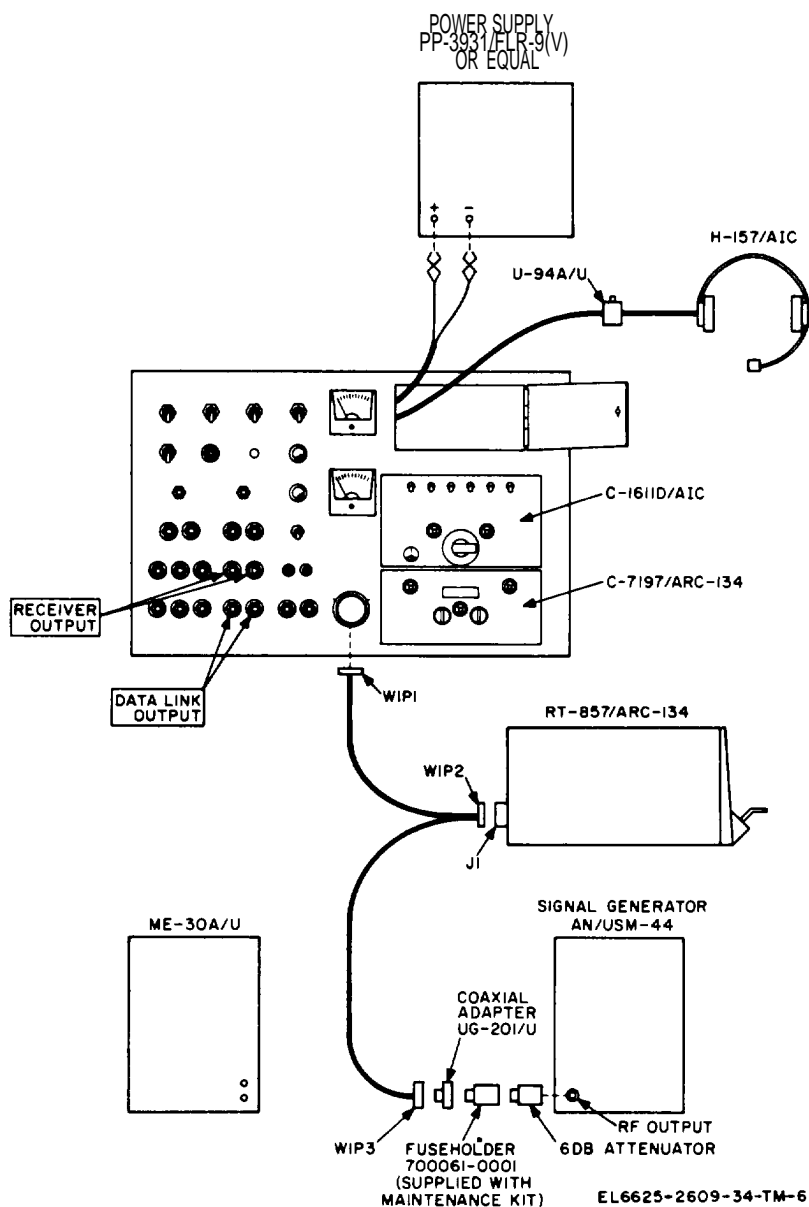

Figure 3-5. Receiver circuit, test setup.
- (1) Radio Set AN/ARC-134.
- (2) Generator, Signal AN/USM-44.
- (3) Power supply.
- (4) Headset-Microphone H-157/AIC.
- (5) Voltmeter, Electronic ME-30A/U.
- (6) Adapter.
- (7) Fuseholder 11509A (part of MK-1004A/ARC).
(8) I/16-amp, 250-volt fuse F01A250V1-16A (part of MK-1004A/ARC).
b. Test Connections and Conditions. Connect the equipment as shown in figure 3-5. Connect the ME-30A/U to the RECEIVER OUTPUT jacks on the test panel. Place the C-1611D/AIC transmit-interphone selector switch in position 3, the RECEIVERS 3 switch ON, all other RECEIVERS switches to off, and position the VOL control as required. These settings must be maintained during the test.
(8) 1/16-amp, 250-volt fuse F01A250V1-16A (part of MK-1004A/ARC).
b. Test Connection and Conditions. Connect the equipment as shown in figure 3-5. Connect the ME-30A/U to the DATA LINK OUTPUT jacks